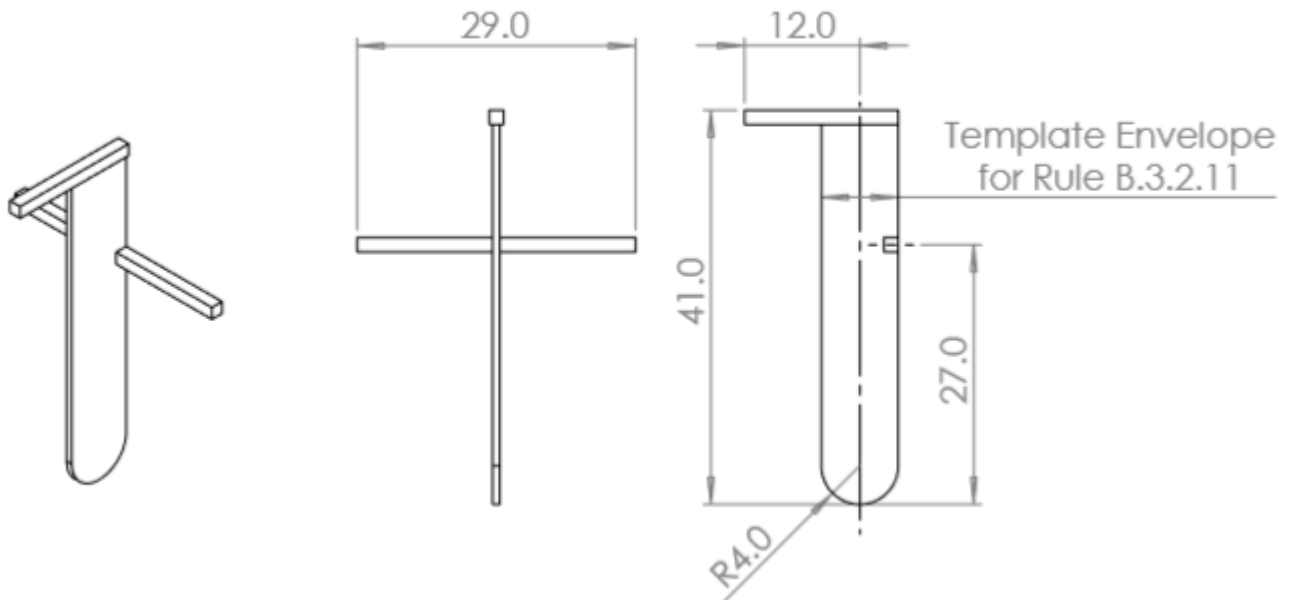

Figure B-12: Roll Cage Template Drawing
- 1) **Lateral USM** - The two LFS members shall be joined by the Under Seat Members. The USM shall pass below the driver within the fore-aft envelope of the part of the template as noted in Figure B-12 that intersects the seat bottom.
- 2) **Longitudinal USM** - The ALC and FLC members shall be joined longitudinally by the Under Seat Member. The forward end of the USM may also terminate at an additional cross member made from primary material that joins the LFS members between Point A and Point F. The USM must pass within the fore-aft envelope of the template as noted in Figure B-12 intersects the seat bottom, and the lateral center-line of the seat.